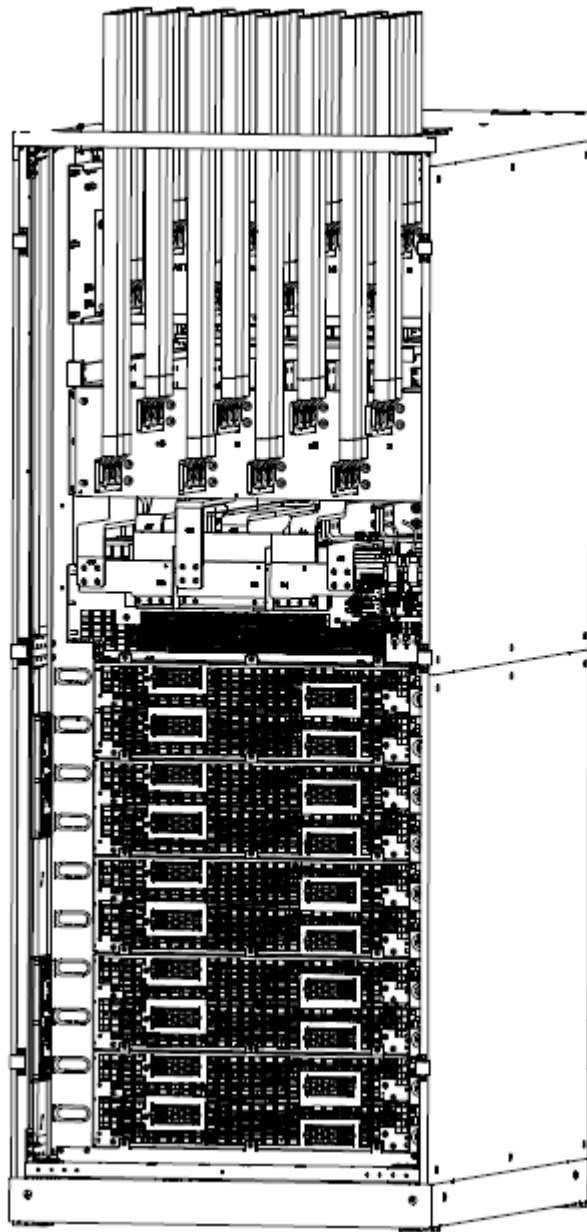
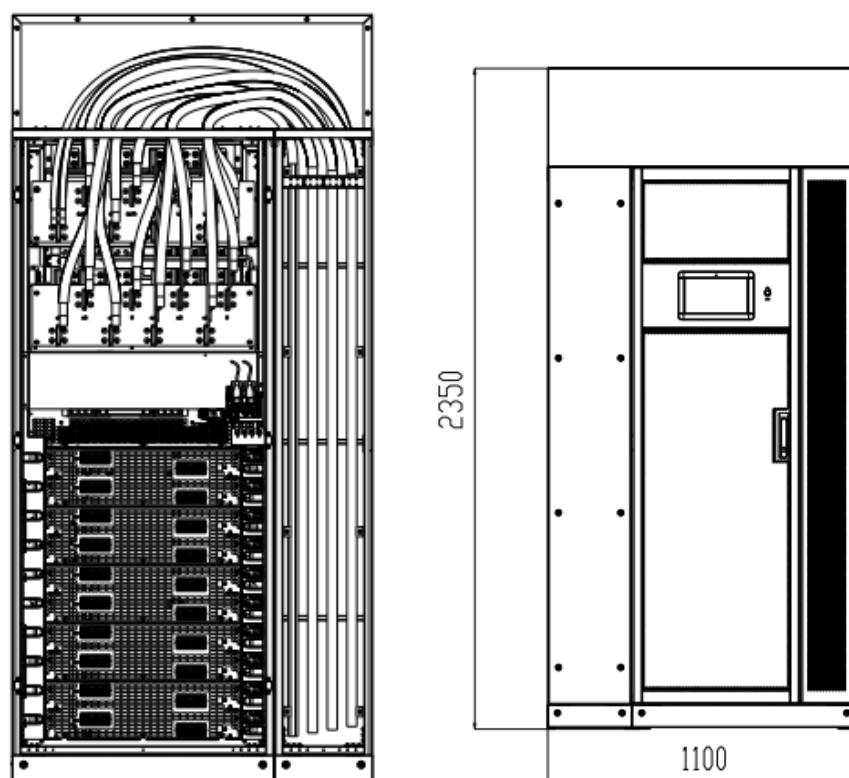

Figure 3-10 Diagram of Top Cable Entry
Figure 3-11 Diagram of bottom Cable Entry
The cabinet support enters from the top side. The cable entry is shown in Figure 3-10. If you need to enter from the bottom side, a bottom-entry cabinet is optional. The bottom-entry mode and size of the system are shown in Figure 3-11.
Step 4: Connect the AC main input cable to the input terminal (mA, mB, mC, N); Connect the AC bypass input cable to the bypass input terminal (bA, bB, bC, N); Connect the output cable to the output terminal (oA, oB, oC, N) as figure 3-10 or 3-11;